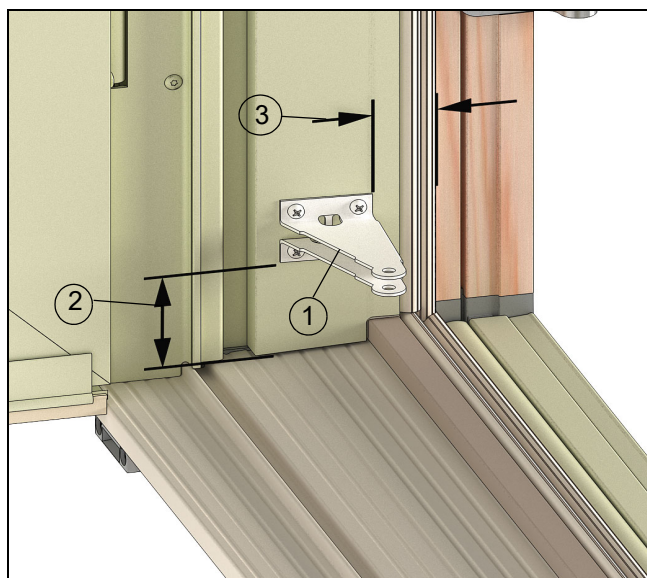

Figure 19 Door panel not shown for illustrative purposes
1. Position the jamb bracket in the lower inside corner of the door frame on the side jamb 1 1/4" (32) above the sill and 1 1/8" (29) from the face of the primary door. Mark and drill four 1/8" (3) pilot holes. See Figure 19.